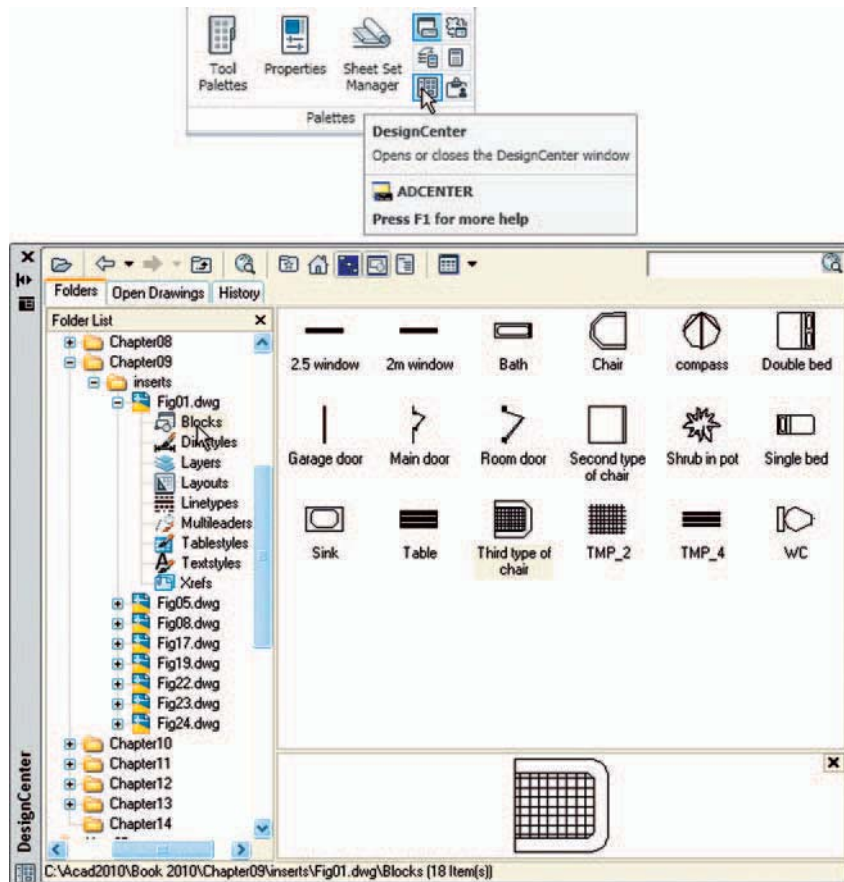

Fig. 1.11 A left-click on the **DesignCenter** icon brings the **DesignCenter** palette to screen
- **DesignCenter** palette: Fig. 1.11 shows the **DesignCenter** palette with the **Block** drawings of building symbols from Fig. 9.1 from which the file **Third type of chair** block has been selected.